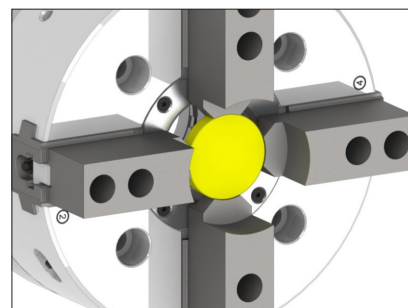

Fig. 4
3. Finally the actual clamping diameter will be bored with the help of the clamped skimming disc [Fig. 4].